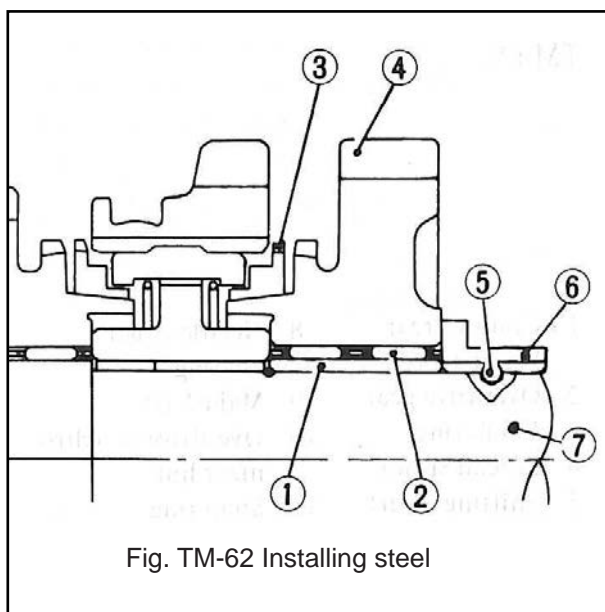

Fig. TM-62 Installing steel
5. Install needle bearing, baulk ring, 1st gear, steel ball and spacer on mainshaft. See Figure TM-62.